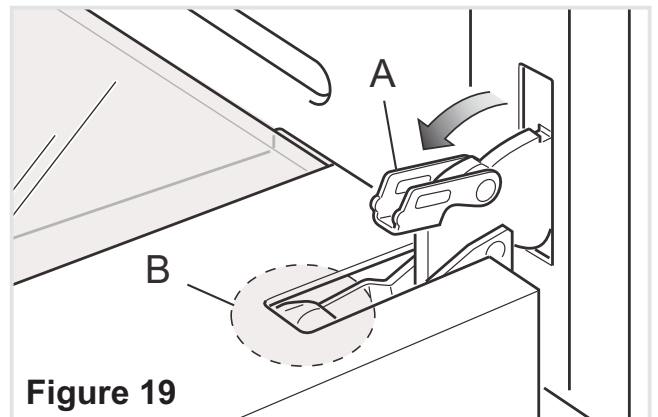

Figure 19
- Open the lever “A” completely on the left and right hinges (fig. 19).
- Gently close the door until left and right hinge levers “A” are hooked to part “B” of the door (figs. 19, 20).